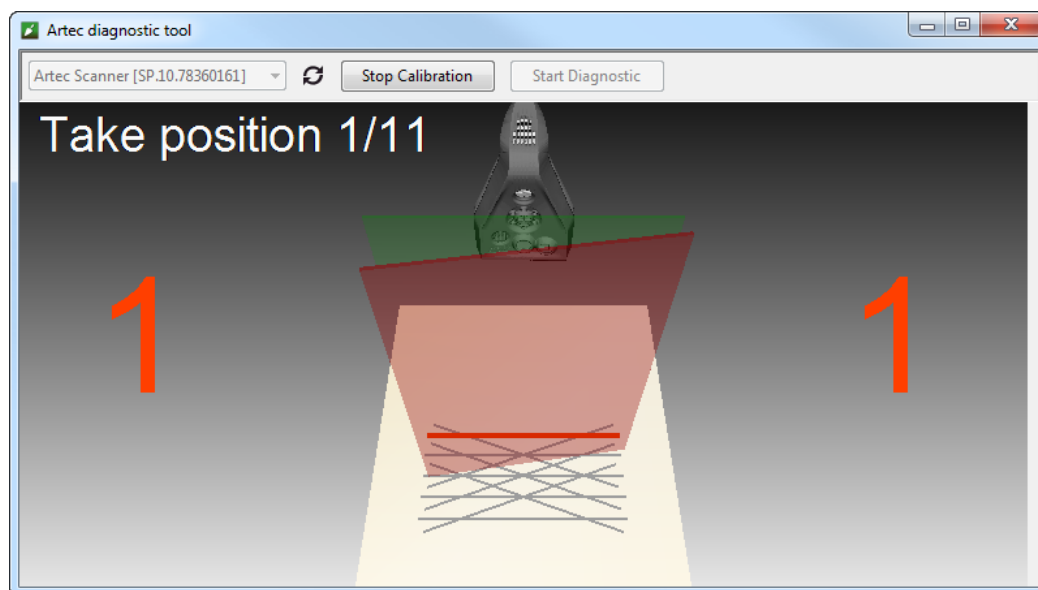

Figure 160: Moving calibration rig to position number 1.
7. Place the rig in its initial position such that the front edge of its base coincides with the color line numbered 1 on the pattern. As you do so, also keep an eye on the *3D View* window for a red plane (current position) and a green plane (target position)—see Figure 160. Once the red plane coincides with the green one, stop moving the rig and wait for the scanner to capture the plane.